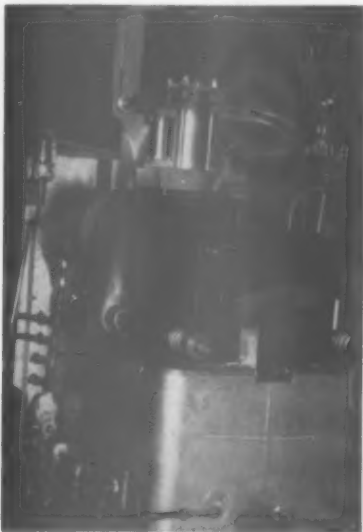

Figure 5. Melting pot with sheet metal enclosure and metal chute. (Courtesy Guide Lamp Division, General Motors Corp.)
31. Each hot chamber pot should be completely enclosed with sheet metal and should be equipped with a metal chute so that molten metal can easily be poured from a bull ladle into the pot (Figure 5). This